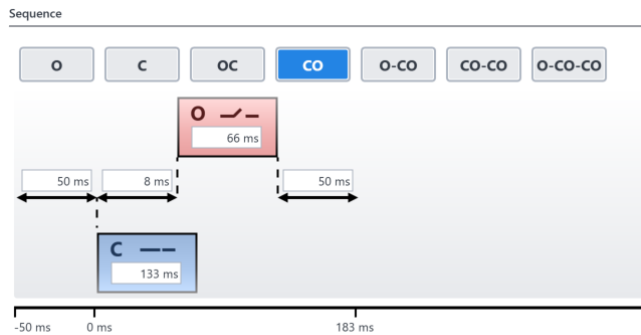

Figure 33: Trip Free (CO) test Sequence Setting
- The CO sequence can be used to not only test the trip-free functionality (circuit breaker tripping after closed under a fault condition) but also to verify the anti-pump system. To test the anti-pump the circuit breaker must first be open before the test is started. The close command is then sent, and during the close operation an open command is sent opening the circuit breaker as fast as possible (fig.33). Due to the open time being shorter than the closing time, the close command will still be on after the open command ends, but the circuit breaker should not “pump”, or close again for a successful test.